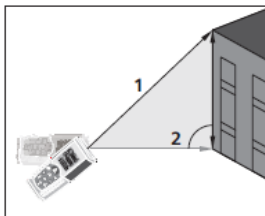

Fig. 7: Indirect 2-point measurement
3. Position the instrument in the highest point (1) of measurement (see Fig. 7) and press the key to measure. The result appears on the first partial display. The symbol "" appears on the display with side "2" flashing
4. Position the instrument as horizontally as possible (2) (see Fig. 7) and press the key to measure. The result appears on the second partial display
5. The final value of the result (obtained as $\sqrt{(1)^2 - (2)^2}$) is shown in the resulting display